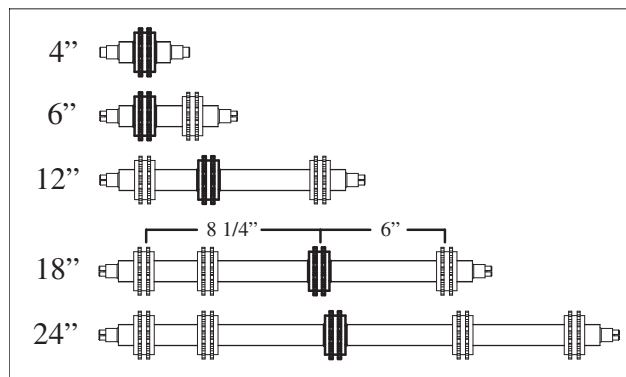

Figure 43
- As required, install free moving sprockets as per Figure 43. Items in bold are the fixed drive sprockets.